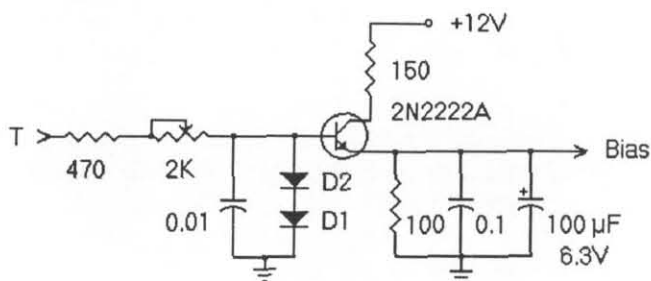

Figure 1. New final amplifier bias circuit.
The new final amplifier bias circuit is shown in Figure 1. The bias transistor is tuned on by the transmit control signal, but the bias current is obtained from the +12V supply rather than the control signal. Output from the emitter of the bias transistor is connected to the junction of RFC1 and RFC2 on the 509 Power Amplifier board (the connection point would be the center tap of T2 in the 505). Final amplifier idle current is set to about 10 mA by the 2K pot. The two diodes in series at the base of the bias transistor compensate for the base-emitter voltage drops of the bias and final amplifier transistors, and the 100 uF bypass capacitor reduces the effect of audio peaks on the bias voltage. The diodes are also used for temperature compensation of the transistor base-emitter voltages. D2 is a 1N914 (or 1N4148) and is in thermal contact with the bias transistor, a 2N2222A. I determined experimentally that the junction voltages as a function of temperature of these two components track very closely. D1 is the original 1N4002 bias diode. I remounted it on the heat sink between the amplifier transistors, but that is probably an over-kill since the heat sink remains essentially at room temperature even at full (7 to 8W) amplifier output.
Important note: Do not increase the size of the bypass capacitors shown in Fig. 1; doing so can result in poor CW keying characteristics! (Modifications to improve keying characteristics are described in a recent **QRPP** article (4).)
1. Obtain the parts for the circuit shown in Figure 1; a metal case 2N2222A should be used for the bias transistor. The 1N4002 diode already on the Power Amplifier board can be used in this circuit. You will also need a 27 Ohm 1/8 Watt resistor to replace R6 on the Power Amplifier board.